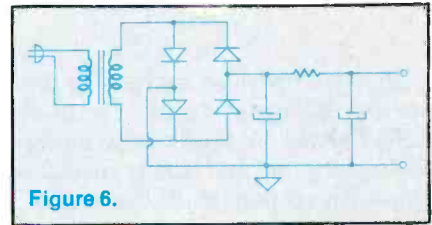

Figure 6.
10. The circuit in Figure 6 is